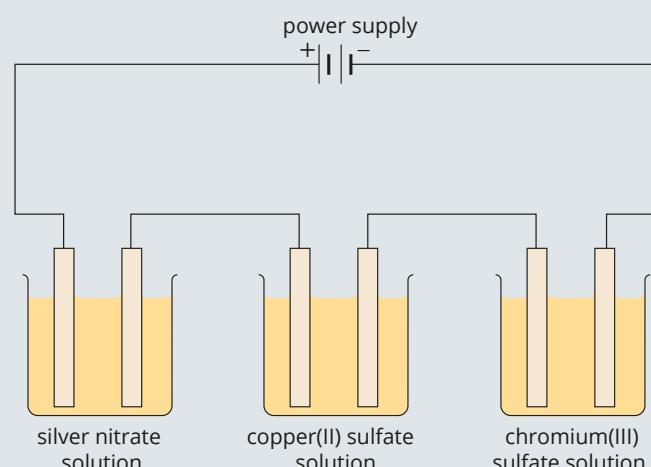

FIGURE 9.4.3 Three electrolytic cells in series.
- 14** A charge of 0.400 faraday was passed through 1.00 L of 1.00 M copper(II) sulfate solution using carbon electrodes.
- Calculate the concentration of the copper(II) ions in solution after electrolysis.
- 15** Three electrolytic cells containing silver nitrate solution, copper(II) sulfate solution and chromium(III) sulfate solution, respectively, were connected in series so that the same amount of electric charge passed through each cell (see Figure 9.4.3). Metal was deposited at the cathode of each cell.